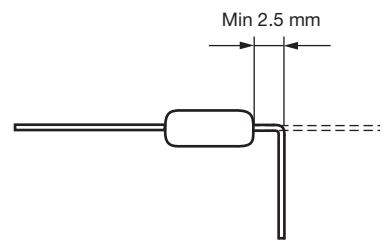

Fig. 2
- Leads should be bent at a minimum distance of 2.5 mm from the diode body (Fig. 2).